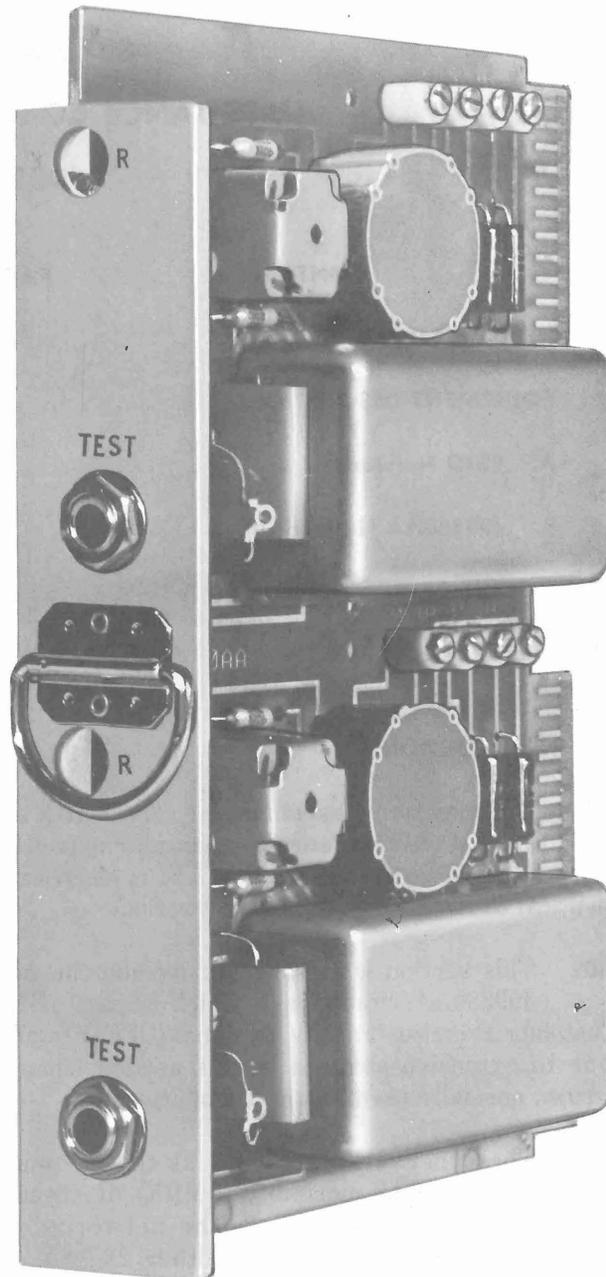

Fig. 2—J99380AA Network
2.05 These plug-in units (Fig. 2) have a potentiometer and a test jack for each circuit on the faceplate. Eight screw type switches for each circuit are mounted on the printed wiring board.